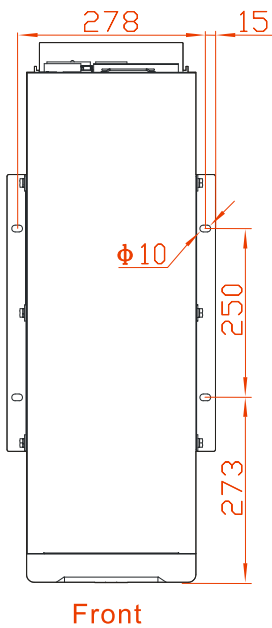

Figure3-8 10/10S/15/15S/20/20S installation holes size of pedestal (top view)
The wiring terminals recommend type as shown in Figure3-8. If users have additional terminals required, please check dimensions to ensure proper selection according to Table3-9.
Step 2 Drill 4 ϕ 10 holes on the ground by impact drill according to the installation holes size of pedestal. The pedestal installation holes size of each model is as shown in Figure3-8, Figure3-9 (drilling deviation ± 2 mm). Install expansion bolts M8. The structure and installation for the expansion bolt is as shown in Figure3-10.